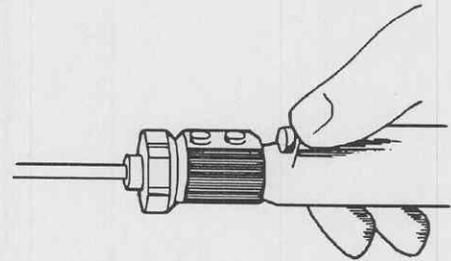

Figure 2-26. Aspiration control removal.
(7) Remove the aspiration control lever from the handpiece by firmly pulling it out from its receptacle and then flush it with water (fig 2-26).